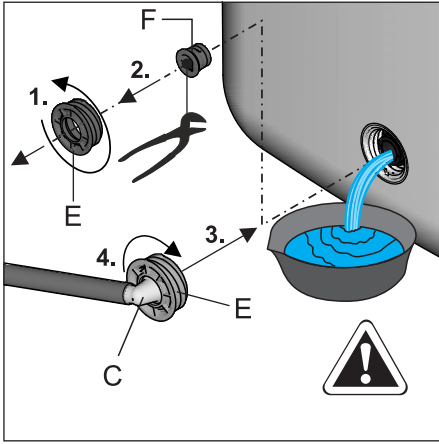

Fig. 6-3 Screwing pre-assembles connector into the filling and draining connection
- Unscrew the threaded piece (Fig. 6-3, Item E) at the filling and draining connection, and remove the plug (Fig. 6-3, Item F) and **immediately screw in** the pre-assembled hose connector (Fig. 6-1, Item C) into the filling and draining connection (Fig. 6-3) again.